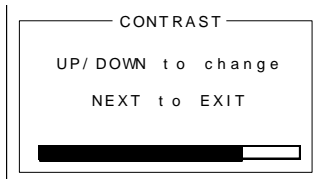

Figure 5-10: LCD Contrast Adjust Menu
**LCD Contrast Adj.** may be set for optimum viewing using the menu shown in Figure 5-10.